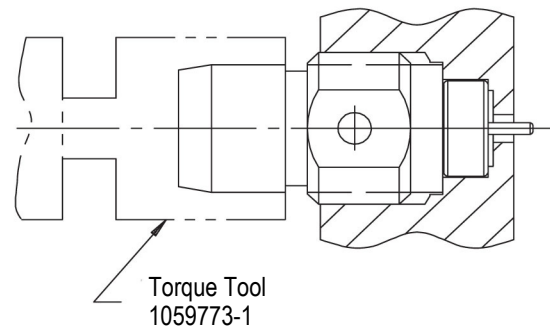

Figure 5
2.3. Connector Installation (Figure 5)